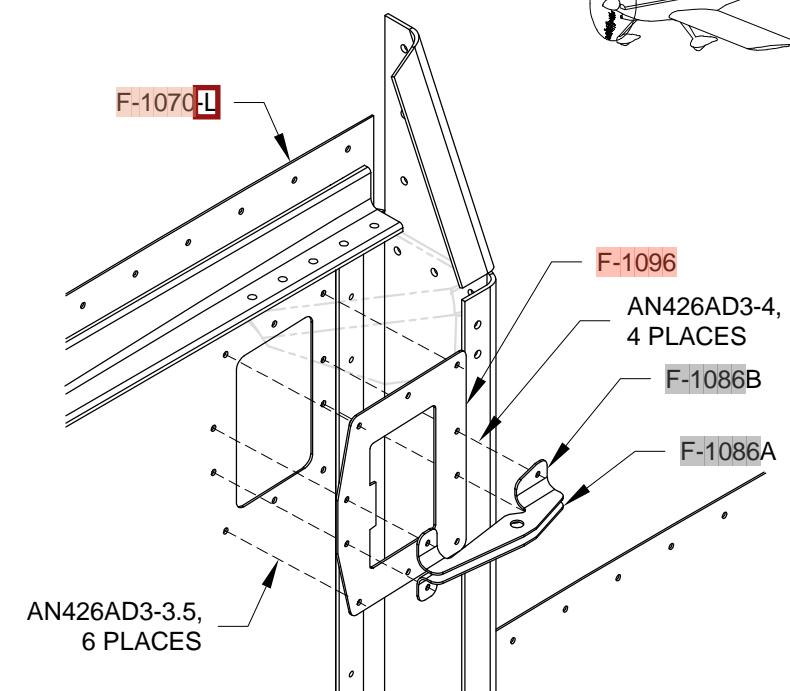

FIGURE 4: ASSEMBLING THE VENT DOUBLER AND BRACKETS
Step 4: Cleco the F-1086A and F-1086B Vent Brackets and the F-1096 Vent Doubler to the F-1070-L Mid Side Skin as shown in Figure 4. Final-Drill #40 the holes common between these parts. Repeat this step for the right side of the aircraft.
Step 6: Rivet the F-1096 Vent Doubler to the F-1070-L Mid Side Skin as shown in Figure 4 leaving open the four holes that attach the F-1086A and F-1086B Vent Brackets. Rivet the vent brackets using these four holes. Repeat this step for the right side of the aircraft.
Step 8: Insert the tab portion of the Vent Door Subassembly fully into the slot of the VENT-00004 centered on the tab, orient the previously countersunk hole towards the bottom of the vent door as shown in Figure 4.